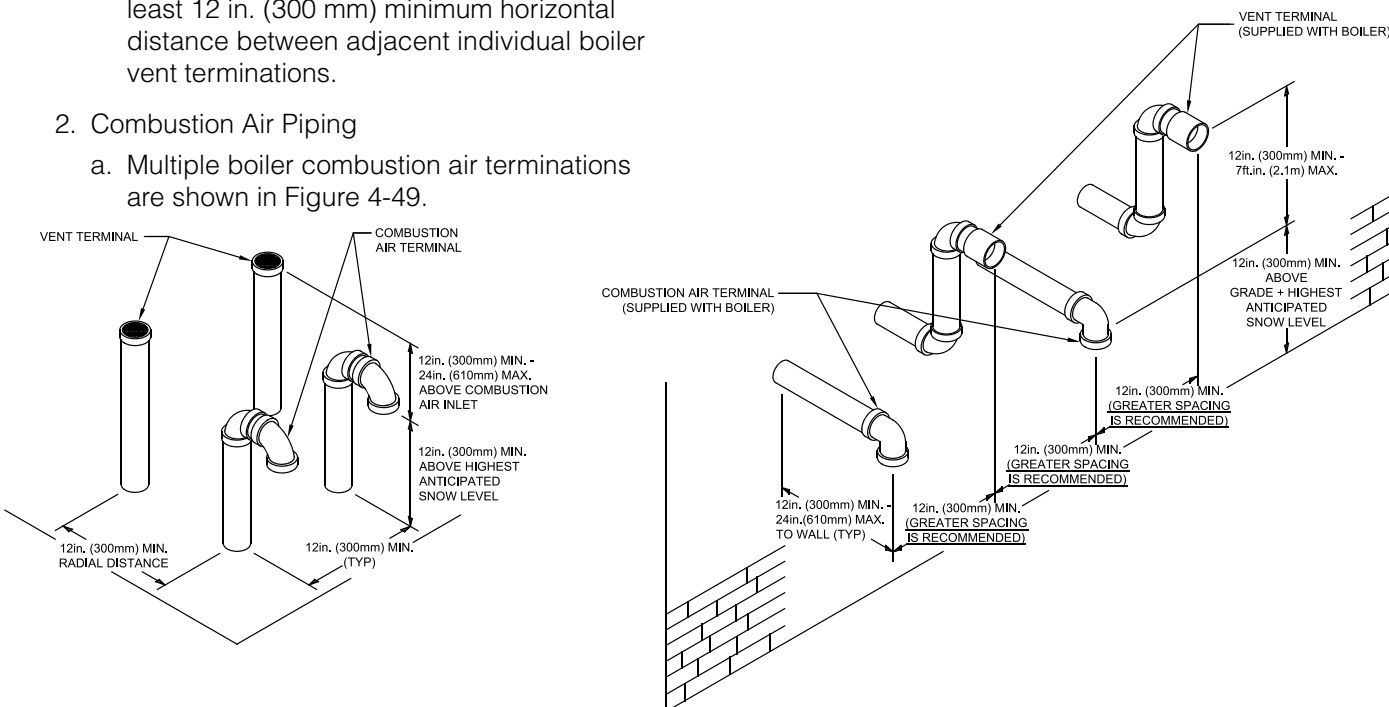

Figure 4-49: Multiple Boiler Direct Vent and Air Intake Terminations
- a. Multiple boiler vent terminations are shown in Figure 4-49.
- a. Multiple boiler combustion air terminations are shown in Figure 4-49.